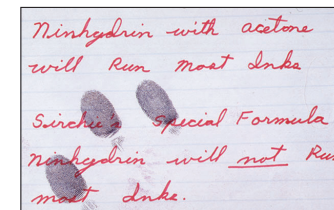

FIGURE 2—Ink does not run using No. 201C or No. NSI609.
- **No. NSI609** with NOVEC-HFE7100—**will not** cause inks to run (Fig. 2).